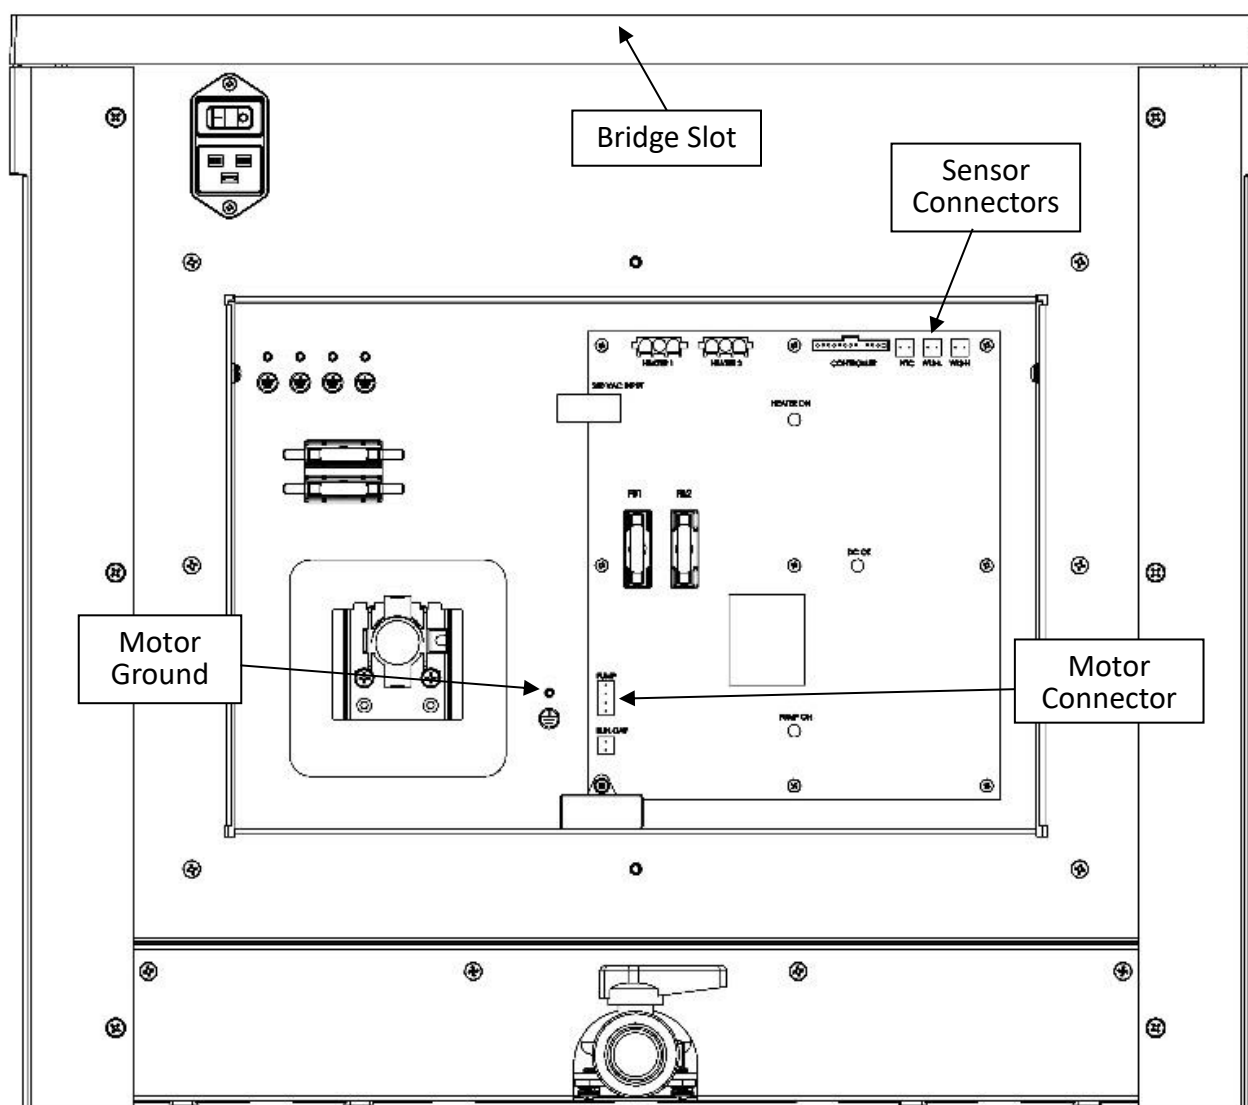

Figure 3 – Pump Motor and Sensor Connectors
- c. Disconnect the Pump Motor connector from the PCB Assembly (See Figure 3).